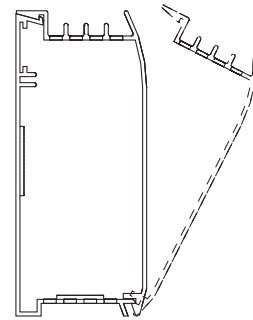

Fig. 5
16. Before energizing, make sure front cover is properly locked onto the back housing along the entire length of the heater, see Fig. 5. Do not operate heater without front cover installed.
10. Replace front cover by latching the bottom front edge of the front cover over the bottom front edge of the back and pushing the cover straight back to latch the top rear edge of the back with the top rear edge of the front cover. See Fig. 5.
10. Replace front covers following Step 10 under **Single Unit Installation**, (See Fig. 5.)
5. Replace front cover as shown in Fig. 5 making sure it is locked in position along length of heater. Restore power to heater and verify it is operating properly.